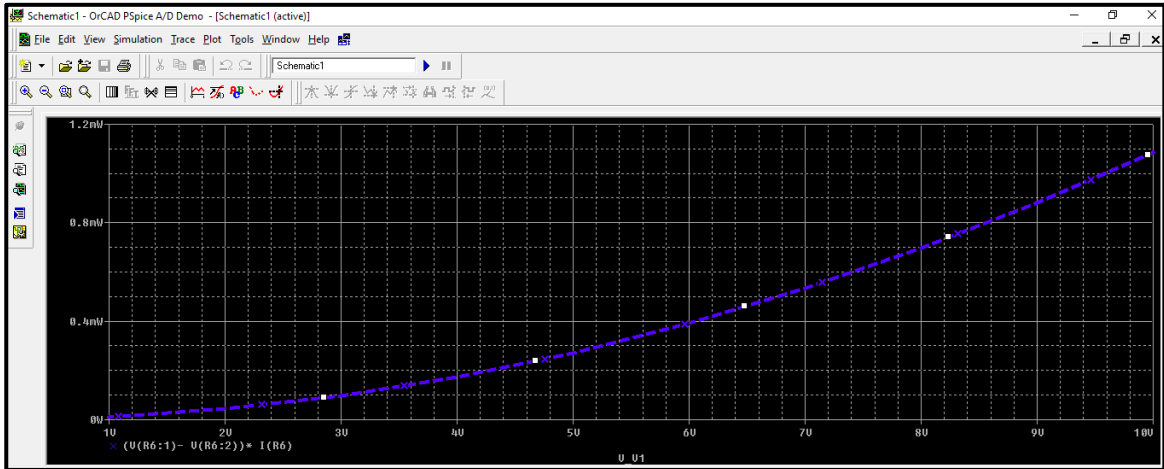

Figure.35
- After changing trace properties, the simulation output window will be shown in figure.35, **always make sure to increase the trace width in your prelab.**